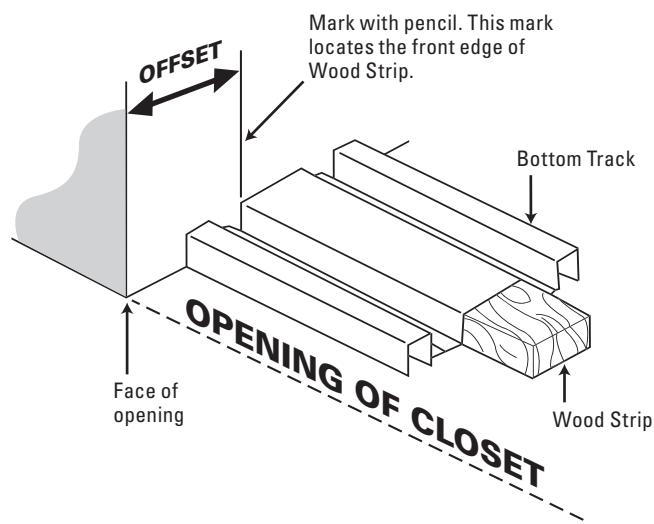

Figure 2
D. Find the correct offset measurement, using the offset measurement chart, for your particular model. From the front edge of the opening, measure using the offset from the chart and make a small pencil mark on the wall. Do this on both walls, i.e., right and left walls (See **Figure 2**).